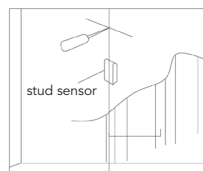
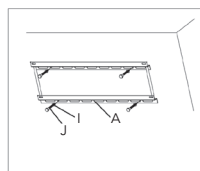

fig. 2.1
fig. 2.2
The wall plate (A) must be anchored to the two wood studs at a distance over 30.5cm (12"). Use a high quality wood stud finder, to locate two adjacent studs. We suggest using an awl, or thin nails, to confirm the location of the wood stud (as shown in fig. 2.1). Use the 5mm (1/5") drill bit and drill 64mm (2 1/2") deep holes in each of wood stud's. Then use four square head screw bolts (J) and four metal pads (I) and install the wall plate to the wall, making sure the installation direction of the wall plate is correct (as shown in fig. 2.2).